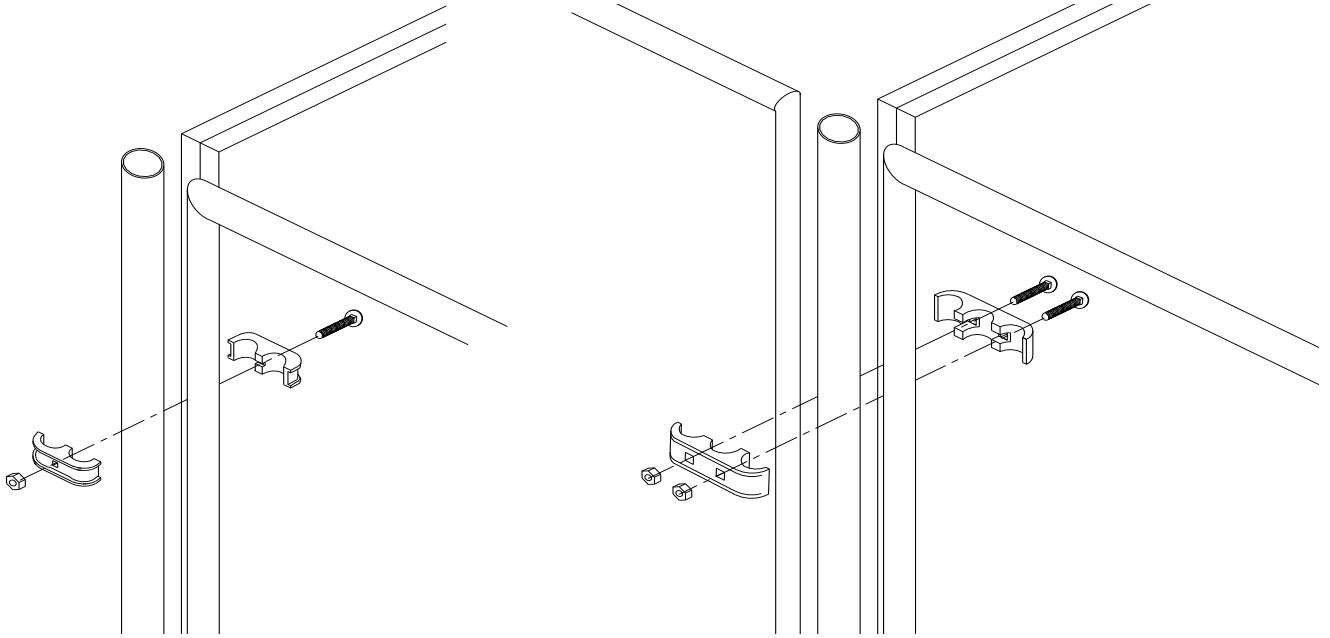
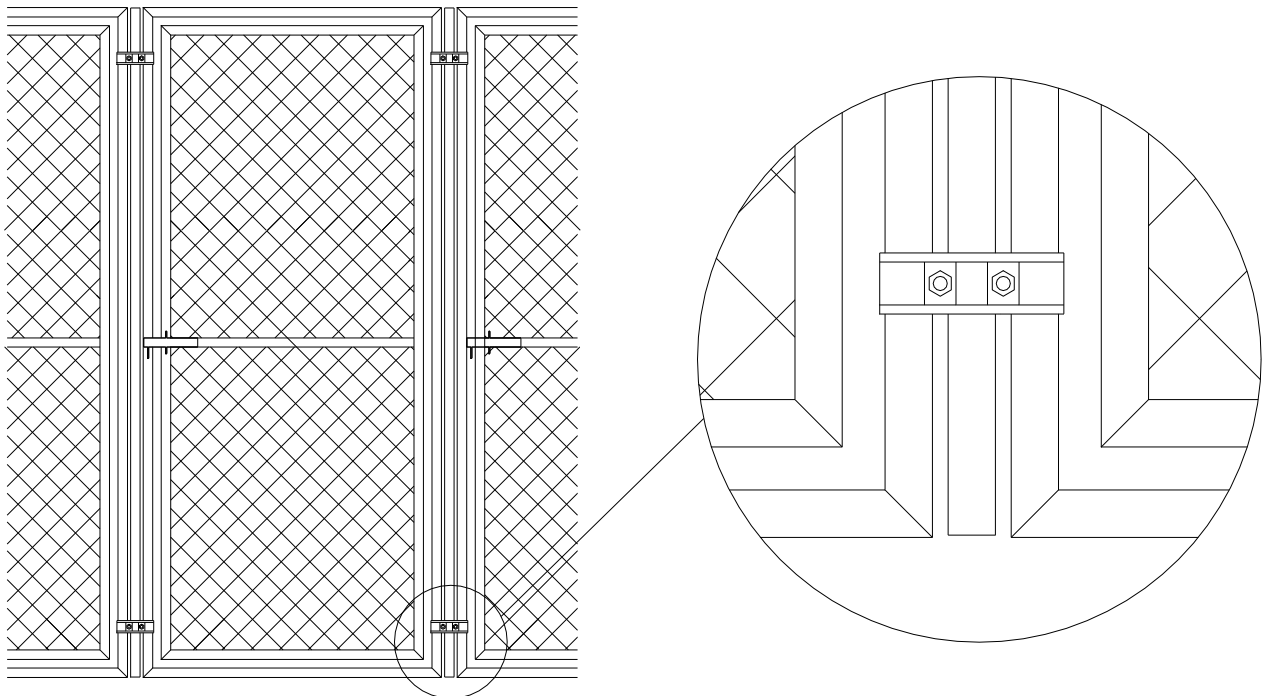

Figure F.2
Figure F.3
2. Attach the gate / stall front on the front of each run between the filler pipes with two clamps on each side using the 5/16" x 1-1/2" bolts and nuts provided (Figure F.2). Note: It takes two halves to make up one clamp. Attach gates / stall fronts to outside division panels using "panel clamps". All other gates / stall fronts will use "triple clamps". **To help ensure the safety of the animals the round head of the bolt should be assembled toward the inside of the run.** Note: The triple clamps attach two gates / stall fronts together. Therefore you will have to hang two gates / stall fronts at the same time (Figure F.3).